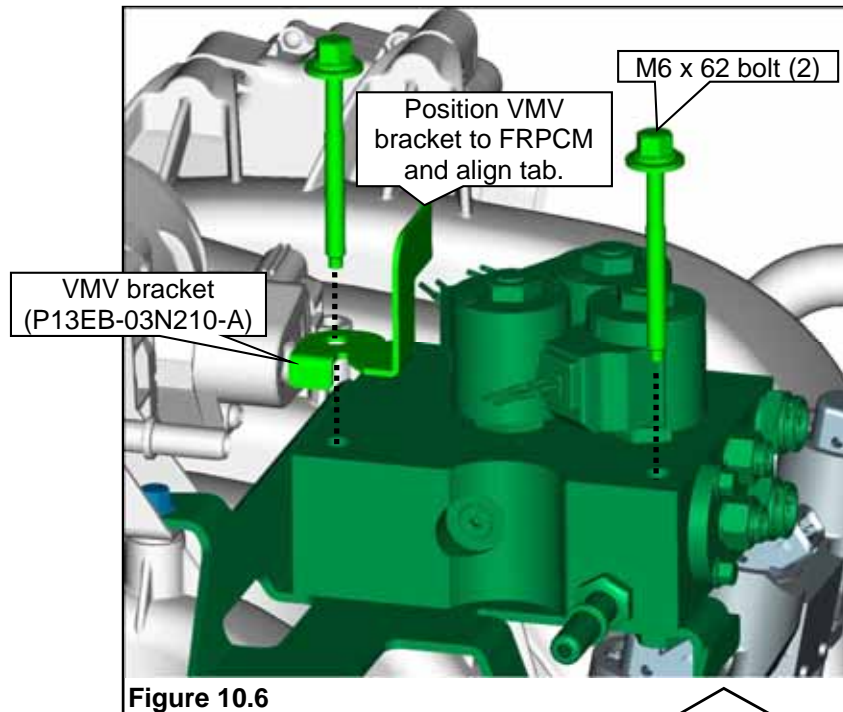

Figure 10.6
5. Position the VMV bracket to the FRPCM inner rear hole with the tab of the bracket rearward. Loosely install two M6 x 62 bolts through the FRPCM into the FRPCM bracket. **Figure 10.6.** Tighten all four bracket bolts to 8–12 Nm.